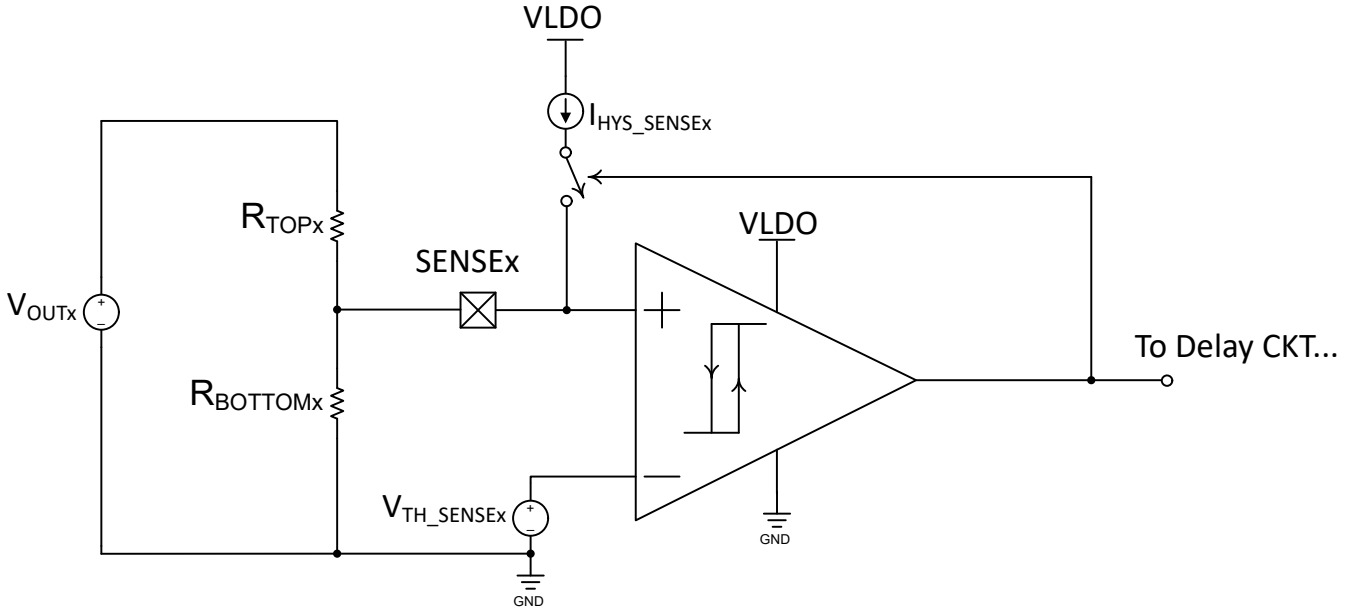

图 8-2. SENSEx Comparators Inputs
The TPS7H3014 sequencer integrates four under-voltage (UV) comparators, with an accurate ($\pm 1\%$) threshold voltage (V_{TH_SENSEx}) of 599mV nominal. V_{TH_SENSEx} is measured at the ENx outputs to account for comparator offsets in the threshold. Maximum flexibility is provided as external resistive dividers can be adjusted to sense any voltage rail (V_{OUTx}). 图 8-2 shows a conceptual diagram of the comparators connected to the SENSEx inputs. As can be observed, the sensed voltage rail (V_{OUTx}) is attenuated (using an external resistive divider, R_{TOPx} and R_{BOTTOMx}) and compared against the V_{TH_SENSEx} voltage. It is recommended to maintain the steady-state SENSEx voltage below 1.6V, in order to maintain the threshold (V_{TH_SENSEx}) accuracy.
This current is mirrored internally across all SENSEx inputs. This hysteresis current becomes active when the SENSEx voltage is greater than the threshold voltage (599mV $\pm 1\%$), same as $V_{OUTx} > V_{ONx}$ (Refer to 方程式 3 and 图 8-2). This current (I_{HYS}) multiplied by the R_{TOPx} resistance induces a voltage (V_{HYSx}) that is added to the SENSEx node, effectively boosting (incrementing) the node voltage. During sequence down, or an undervoltage event when the V_{OUTx} is decrementing, it will need to drop below the V_{OFF} voltage in order to be considered as an out of regulation (or fault). The hysteresis voltage is defined as: